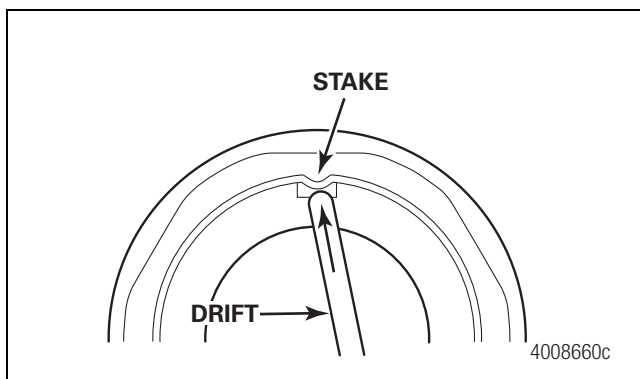

Figure 3.11
1. Use a blunt drift to remove the two stake points on the wheel bearing nut. Remove the wheel bearing nut. Use a drift to remove the staking points before removing the nut. Figure 3.11.